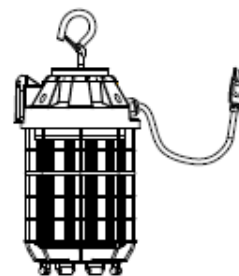

Figure 1
STEP 2: Screw the hook onto the top of the fixture. (Figure 1)